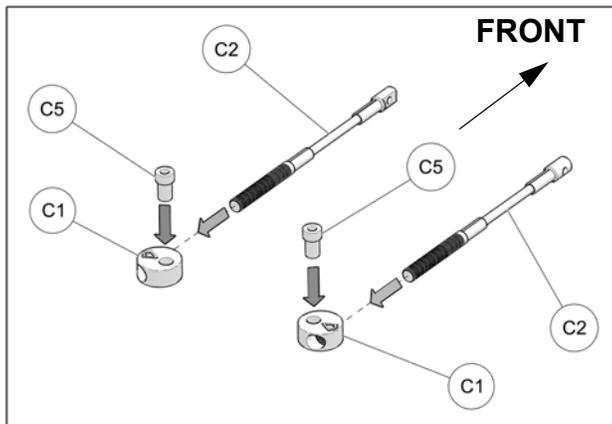

Fig. 24
10. Assemble steering limiter cables (C2), aluminum disks (C1) and step spacers (C5) together as shown on Fig. 24